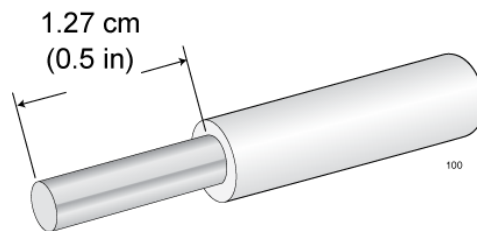

Figure 45. Stripping the Grounding Wire
1. Prepare an adequate length of stranded grounding wire (10 AWG) for the ground connection by stripping it as shown in Figure 45.